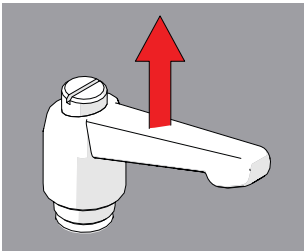

Fig. 17 - Pull ratchet handle
1. Pull the ratchet lever away from the base of which it is connected (Fig. 17).